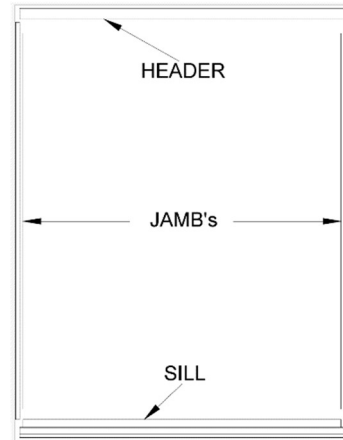

Figure 3
3.2 Assemble the frame using the #6 x 3/4" panheads screws (#3). Refer to figure 3.